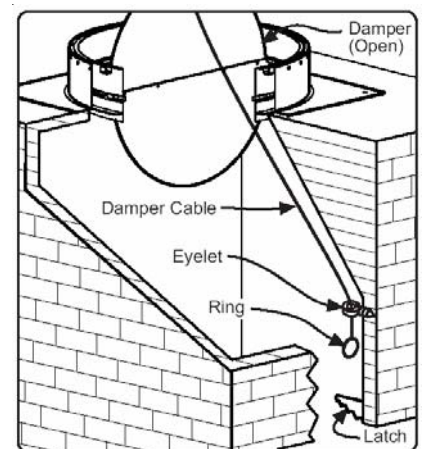

Figure 4.
4. Release Ring from Latch and ensure that damper returns to the fully open position. Excess Damper Cable length may be trimmed once installation is complete. See Figure 4.